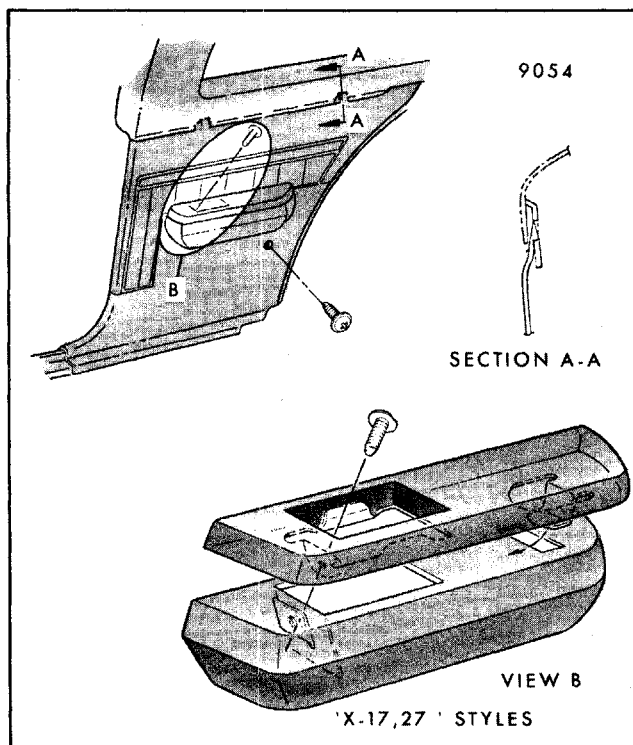

Fig. 6-6-Quarter Trim and Armrest Attachment - X-17,27 Styles
- a. On X styles with deluxe trim, remove attaching screw under ash tray securing pad to armrest to gain access to two attaching screws. To remove trim on X styles with standard trim, remove single attaching screw at lower rear portion of trim (Fig. 6-6).